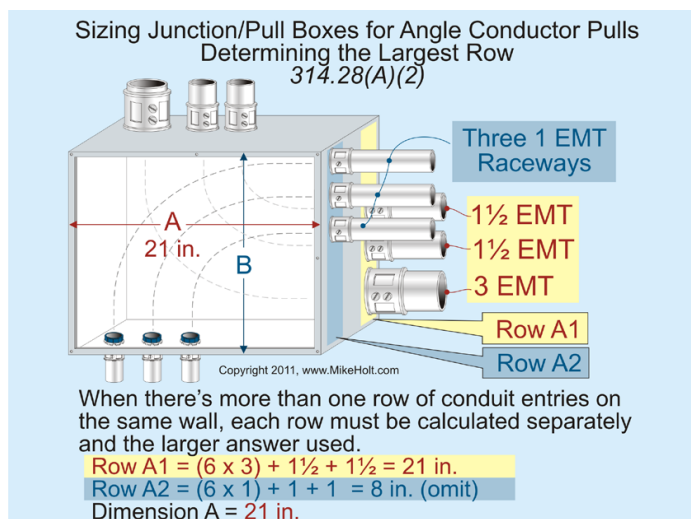

Figure 5-49
- **Rows.** Where there are multiple rows of raceway entries, each row is calculated individually and the row with the largest distance must be used. **Figure 5-49**